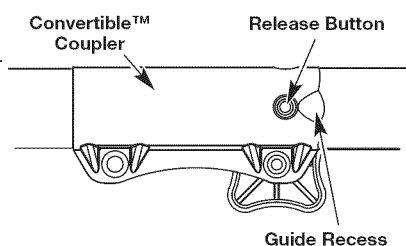

Fig. 4
**NOTE:** Aligning the release button with the guide recess will help installation (Fig. 4).
2. Press and hold the release button (Fig. 4).